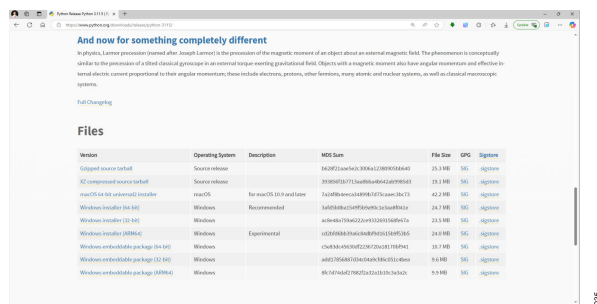
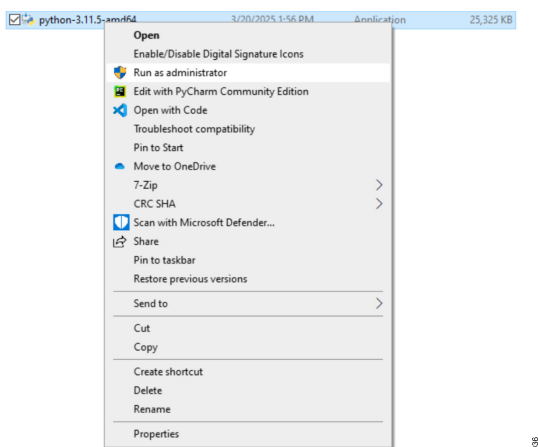

Figure 36. Download Python Windows Installer
Figure 37. Install Python 3.11.5 as an Administrator
- Download **Windows Installer (64-bit)**, as shown in Figure 36. Install Python 3.11.5. It is recommended to install Python 3.11.5 as an administrator by right clicking on the installer, as shown in Figure 37.